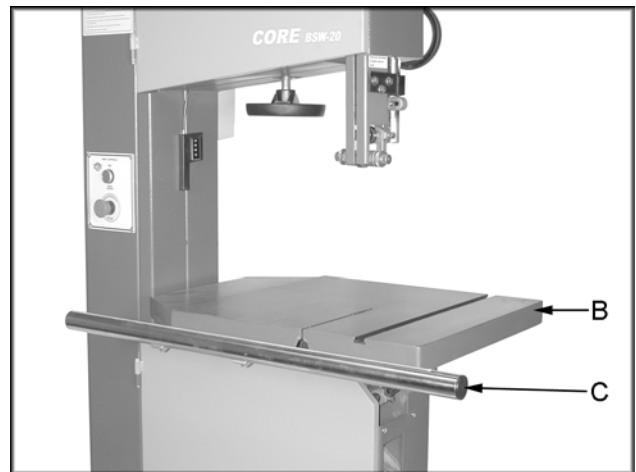

Figure 2
3. Installing the table (B, Figure 2) is easiest if the blade is out of the way. The blade tension is loose as sent from the factory. Open upper and lower doors completely and remove the blade. Wear leather work gloves to protect your hands.
5. Lift the table and carefully align the trunnions. Make certain the fence rail (C, Figure 2) is positioned at the front side of the bandsaw.